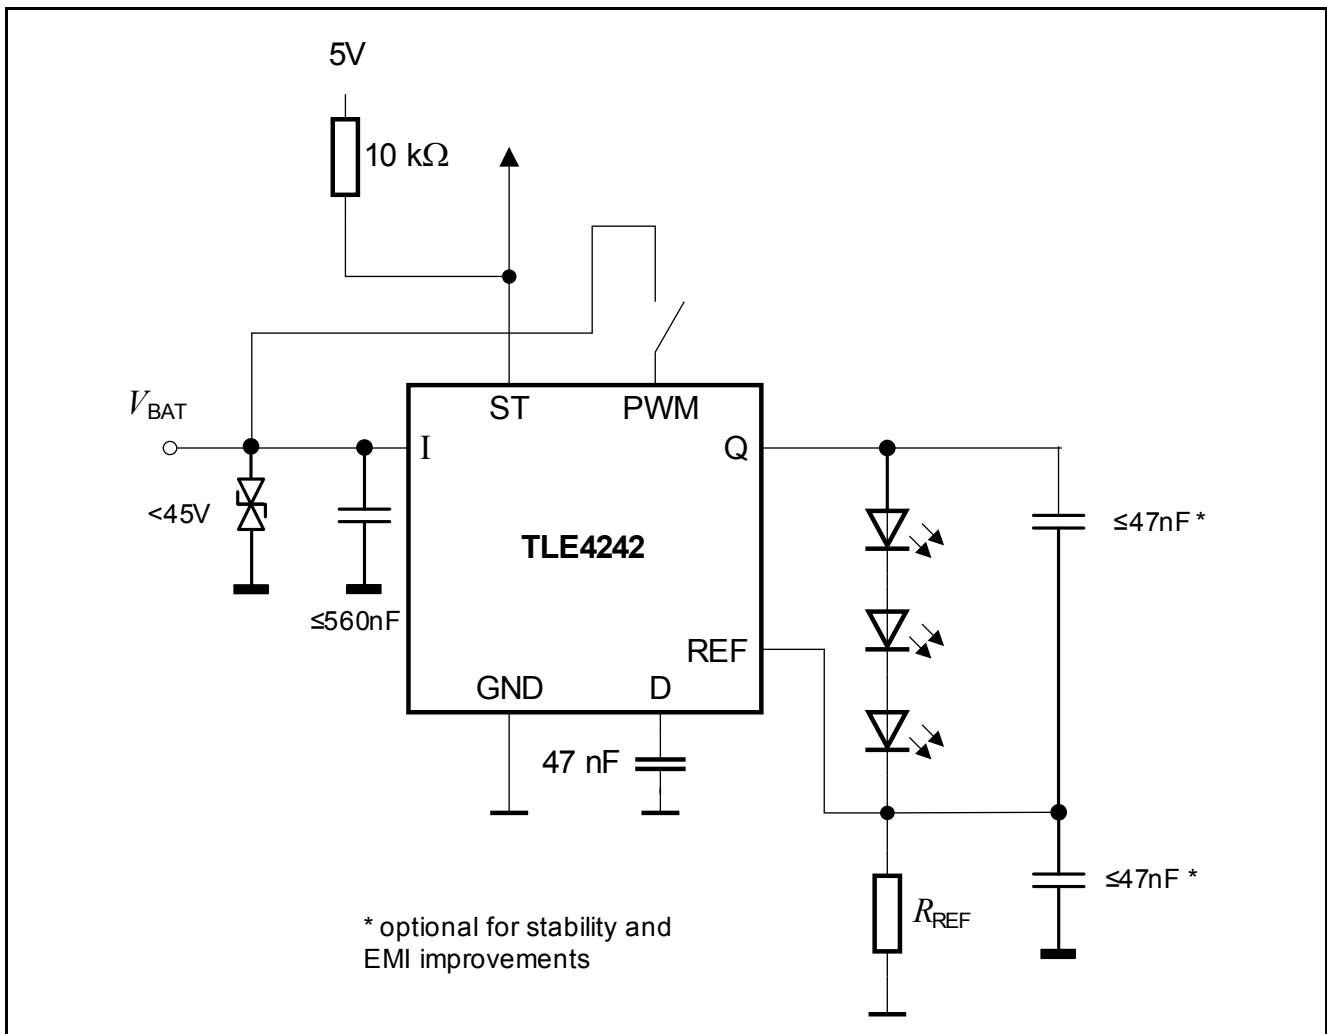

Figure 6-1 Application Diagram
The application example in **Figure 6-1** shows a typical application with the TLE4242EJ LED driver. The three LEDs are driven with an adequate supply current adjusted by the resistor  $R_{REF}$ . Thus brightness variations due to forward voltage spread of the LEDs are prevented. The luminosity spread arising from the LED production process can be compensated via software by an appropriate duty cycle applied to the PWM pin. Therefore, selection of the LEDs to forward voltage as well as to luminosity classes can be spared. The minimum supply voltage for the application is the sum of the LED forward voltages, the TLE4242EJ drop voltage **Minimum drop voltage  $V_{dr} = V_I - V_Q$**  and the max. voltage drop at the shunt resistor  $R_{REF}$  of  $V_{REF(\text{max})}$  according to **Reference voltage**.
2)  $V_Q - V_{REF}$  equals the forward voltage sum of the connected LEDs, see Figure 6-1